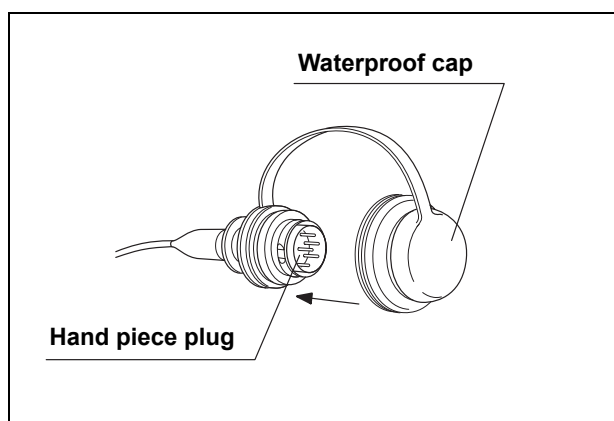

Figure 7.1
2. Attach the waterproof cap to the hand piece plug as shown in Figure 7.1. Make sure that the hand piece plug is inserted securely.